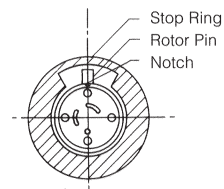

Fig. 8. Correct position of rotor seal (slots face the stator).
- Line up the rotor seal as shown in Figure 8. The rotor seal slots face the stator.